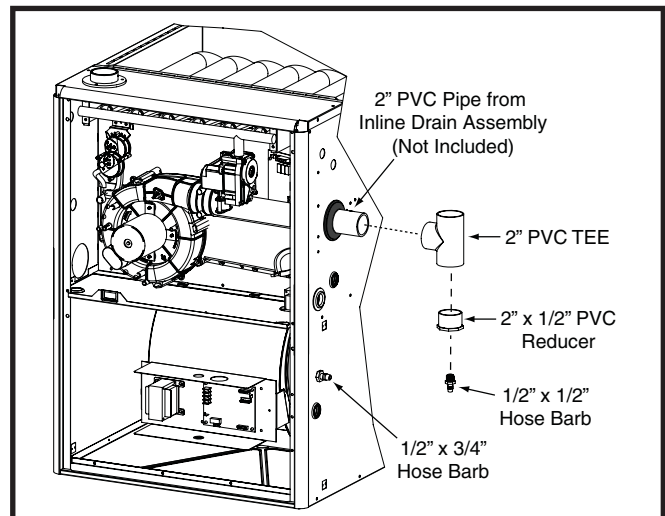

Figure 19. PVC Tee (2"), Reducer and Hose Barb
#### PVC TEE, Reducer, and Hose Barbs (Fig. 19)
**The PVC items shown in Figure 19 (page 20) are not supplied with \*TL furnaces.**